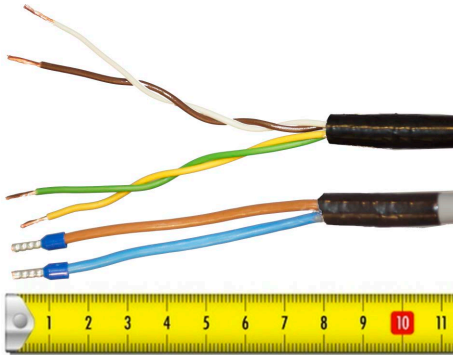

Figure 9: Cable Preparation Receiving Cable Sides
3. Attach the isolated cable end to the metal saddle on the rear of the instrument. See *Figure 9: Cable Preparation Receiving Cable Sides* on page 14.